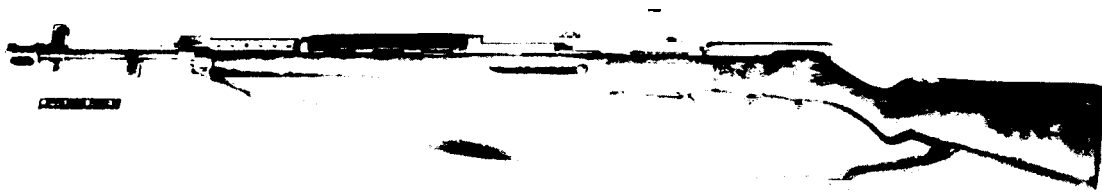

FIGURE 52. 7.62-MM AUTOMATIC RIFLE M1936 (AVS).
The Simonov automatic rifle M1936 (AVS)1 (fig. 52) was the first automatic and semiautomatic rifle produced by the U. S. S. R. in 7.62-mm caliber. Imperial Russia had previously produced the Federov automatic rifle M1916, in 6.5-mm caliber, but the weapon did not prove successful and very few were manufactured. The Simonov rifle M1936 evidently did not meet requirements either, for it is no longer used in the Soviet Army and has not been encountered in the field.
a. The automatic rifle M1936 (fig. 52), which has been superseded by the Tokarev series, is capable of either semi- or full-automatic fire. It is difficult to field strip and is subject to malfunction.